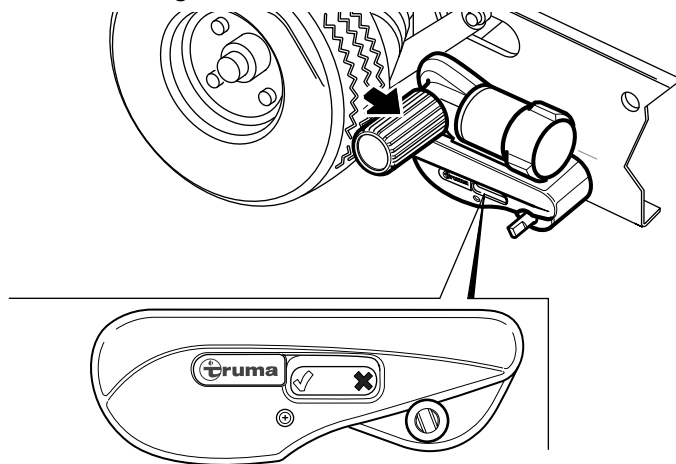

Fig. 31
- Disengagement was successful if the position indicator on the manoeuvring system's housing points to ✕ (Fig. 31).